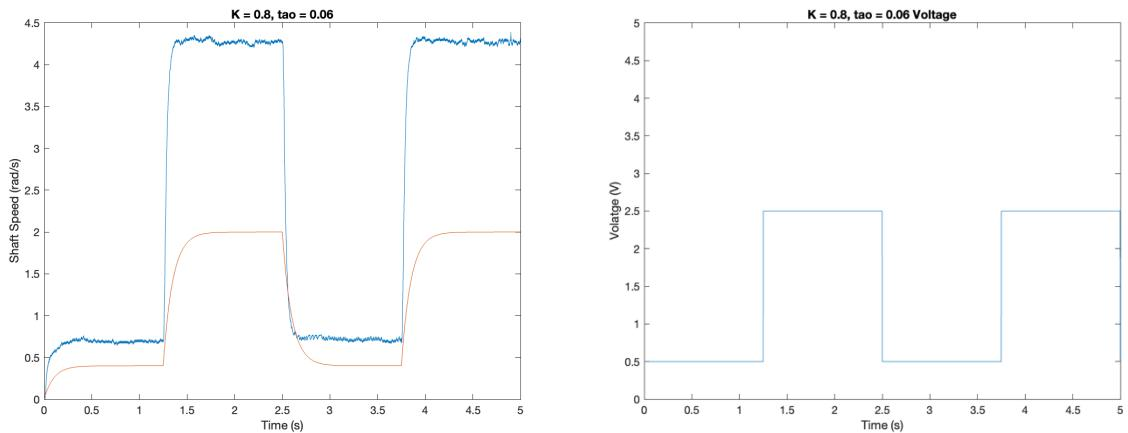

Figure 3: Model Validation with $K = 0.8, \tau = 0.06$
Looking at Figure 3, decreasing the gain (K) from 1.0 to 0.8 decreased the amplitude of the output by nearly 0.5 rad/s, lowering the time constant lessened the curve towards the steady state signaling that the system reacted to how it should.